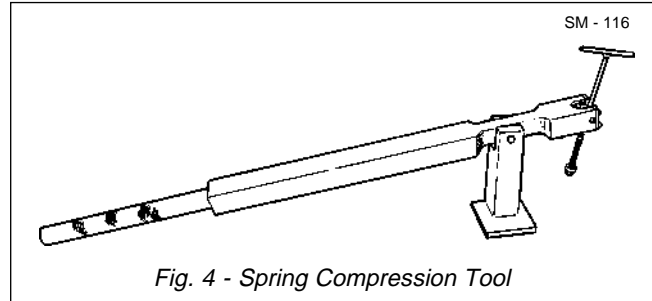
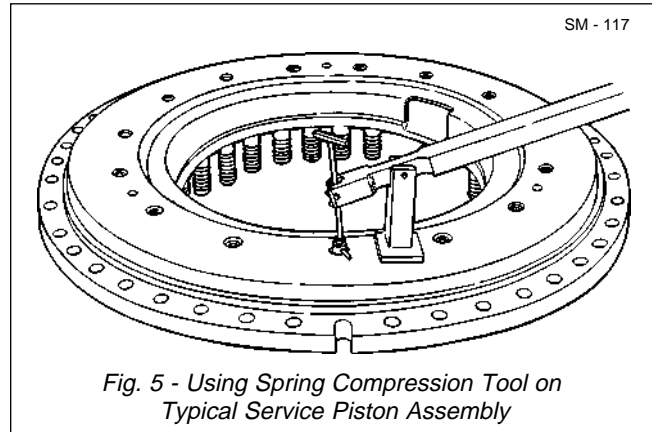

Fig. 4 - Spring Compression Tool
Fig. 5 - Using Spring Compression Tool on Typical Service Piston Assembly
**Piston housing assembly (41) is under pressure from spring (20 & 21) compression. To prevent personal injury and property damage, use care when removing socket head screws (45) and hardened washers (44).**
11. Very carefully, remove socket head screws (45) and hardened washers (44), by turning screws out alternately, one turn at a time on each screw. Piston housing assembly (41) is under spring (20 & 21) compression. Using a suitable lifting device, lift piston housing assembly (41) from disc housing (25) and place on a flat surface, service piston (31) side up.
12. Remove and discard 'O' ring (37) from piston housing assembly (41).
13. Remove and discard 'O' rings (40) from piston housing assembly (41).
14. Using spring compression tool (shown in Fig. 4), screw the 'T' handle of the tool into the threaded hole in the end of one retaining pin (35), see Fig. 5.